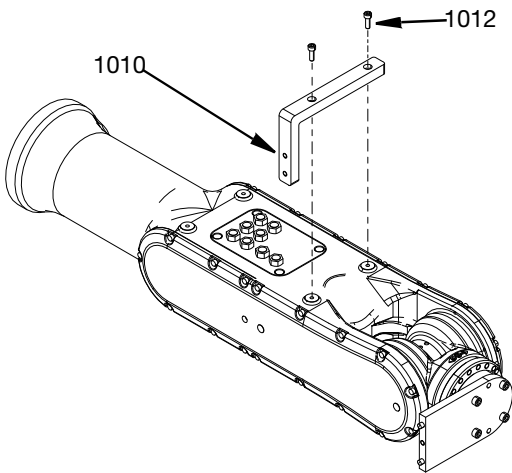

FIG. 18
2. Attach the 20 kg anti rotation bracket (1010) to the robot using M5 x 12 screws (1012). Do not tighten the screws. See FIG. 18.